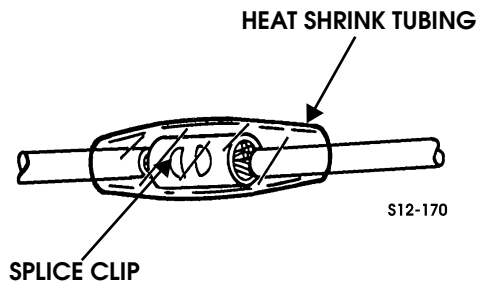

Figure 12-10: Splice Clip
3. Slide heat shrink tubing over one of the wire ends (Figure 12-10).